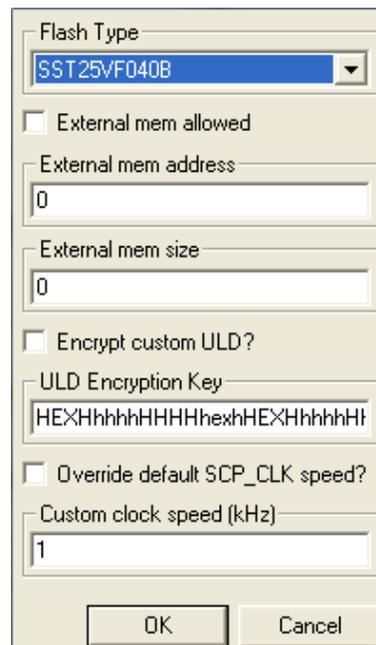

Figure 9-3. Flash Type
5. Select the flash type, as shown in Fig. 9-3, by clicking the “Advanced” button.